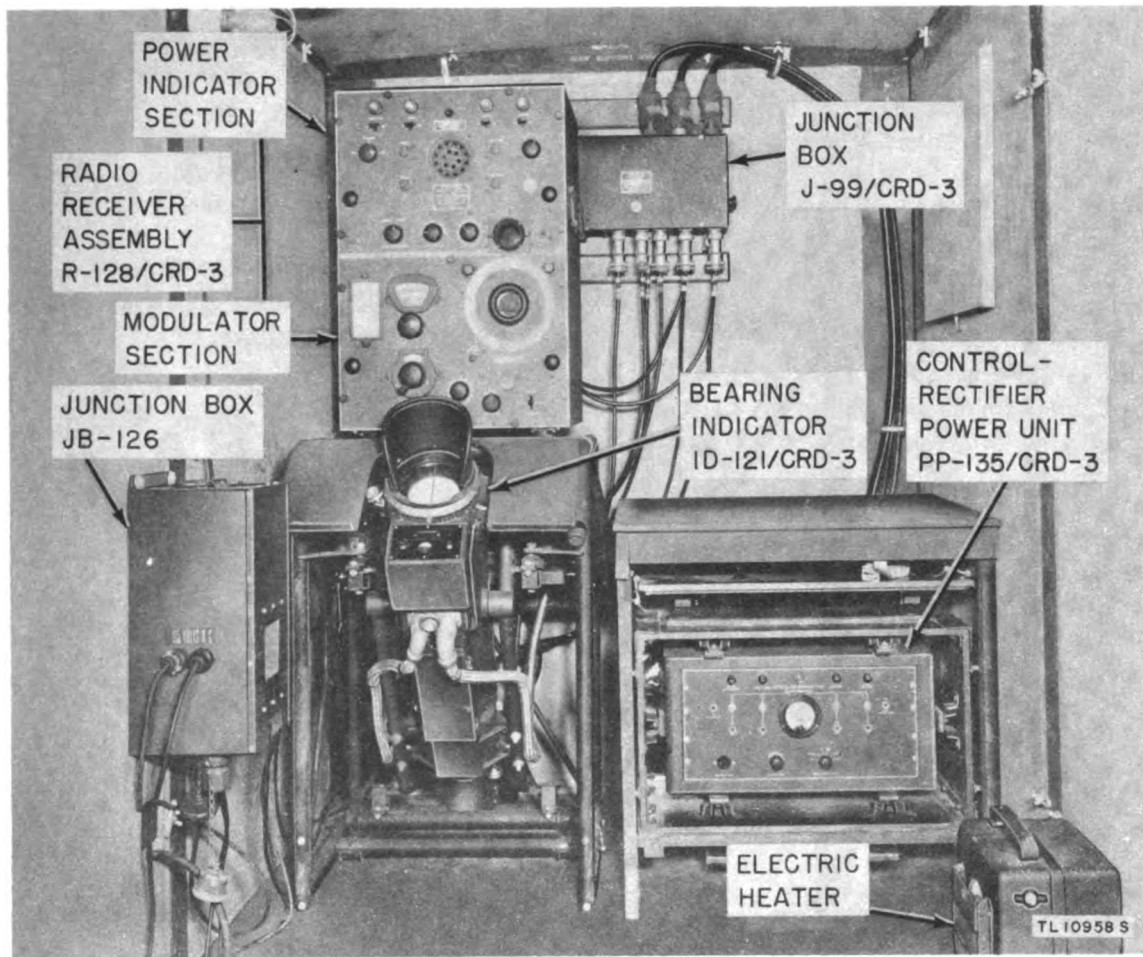

Figure 36. Radio Set AN/CRD-3 installed in Shelter HO-20-B, front view.
(1) Locate the wooden frame for mounting Junction Box J-99/CRD-3 from the chest containing tools, hardware, and miscellaneous equipment. The necessary wood screws are packed with the frame. Fasten the wooden frame to the rear wall of Shelter HO-20-B, midway between the two sides of the panel, and approximately 4 to 6 inches from the top (fig. 36). Mount Junction Box J-99/CRD-3 to the wooden frame in the proper position so that the ten AN connectors on the junction box face
(2) Allow for enough length of Cords CD-1020 inside the shelter to make an easy bend along the side and top of the shelter. Connect Cords CD-1020 to the proper connectors on the top of Junction Box J-99/CRD-3, observing the color coding (fig. 36). Remove three harness clips and the necessary wood screws from the chest containing tools, hardware, and miscellaneous equipment. Fasten the harness clips around three Cords CD-1020 in the manner indicated in figure 36 and fasten to the wall of the shelter with wood screws.
ing PP-135/CRD-3 from the set of tools, hardware, and miscellaneous equipment. Fasten this frame at the bottom of the table (fig. 36) allowing enough clearance for Case CY-253/CRD-3 containing Control-Rectifier Power Unit PP-135/CRD-3.
g. Junction Box JB-126. Mount Junction Box JB-126 on the side wall of Shelter HO-20-B, at the left of the operator as illustrated in figure 36. Connect associated cords.
(1) Mount the light fixture as indicated in figure 36. Plug the light fixture into Junction Box JB-126.
(2) Mount one heater on the front panel, directly behind the operator's chair. Plug it into Junction Box JB-126. If one heater is not sufficient, the other heater may be mounted in any convenient place for use.
(3) Place the operator's chair in a position near Mounting Table MT-347/CRD-3. Store the second collapsible wooden table at the left of the steel table.
(4) Telephone EE-8-B may be mounted at any convenient point on the shelter wall.
(5) The fire extinguishers should be mounted within easy reach.